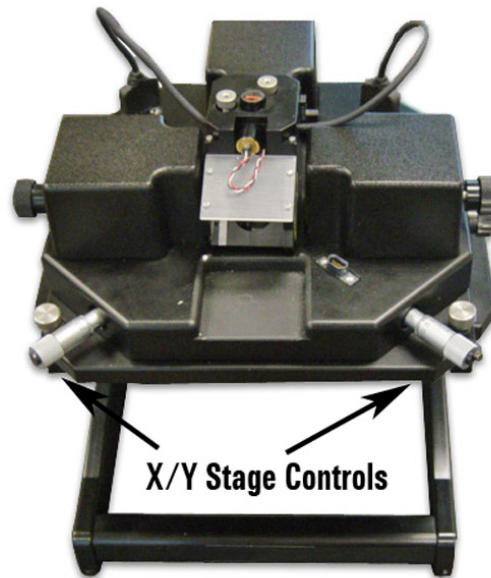

Figure 75 Stage control micrometers
- 11 Locate the area of interest on the sample by manually moving the X/Y stage control micrometers (Figure 75) while watching the video window.